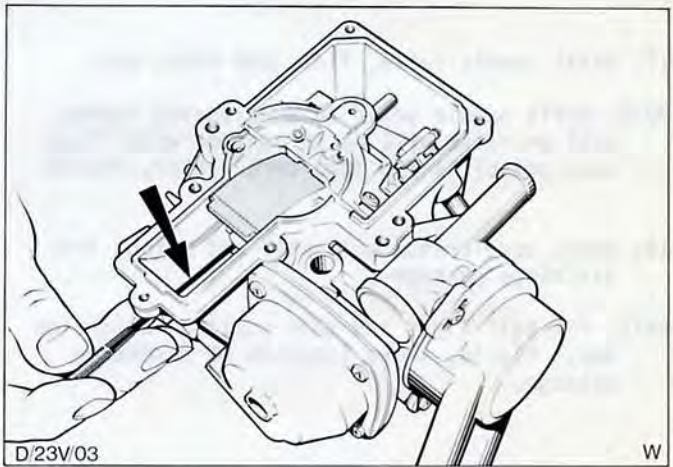

Fig.61. Main metering rod removal.
7. Unscrew and carefully detach main metering rod, Fig.61.